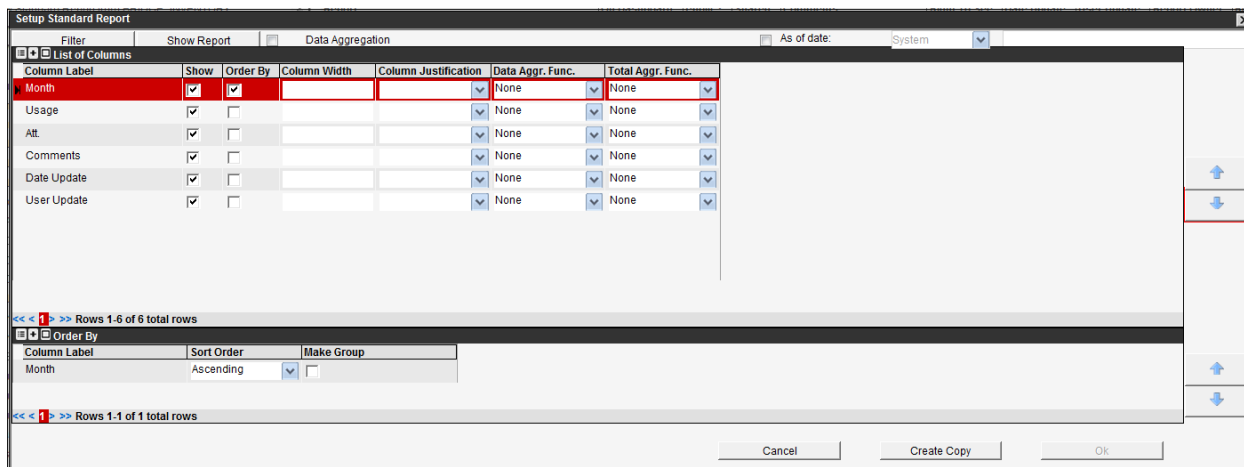

Figure 2-16. Setup Standard Report Dialog Box Example (Repeated)
**TIP!** When **Setup/Show Report** is selected, the Setup Standard Report dialog box (Figure 2-16) is opened. If **Show Report** is selected, skip to step 4.
3. Select the **Show Report button** (Figure 2-16) to display the tabular data.